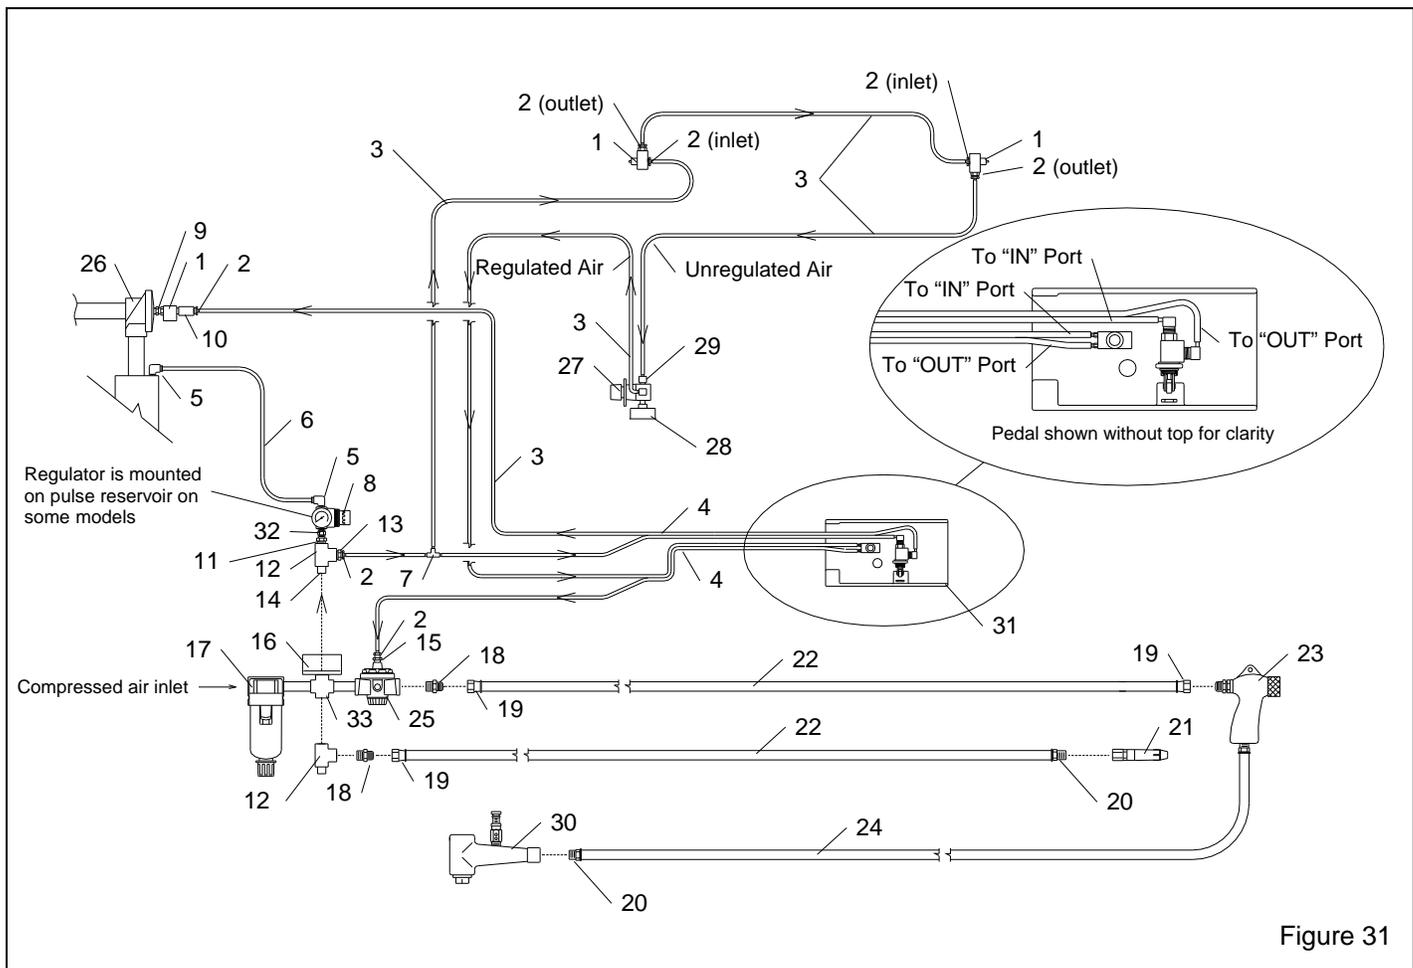

Figure 31
9.4 Cabinet Plumbing Assembly, Figure 31